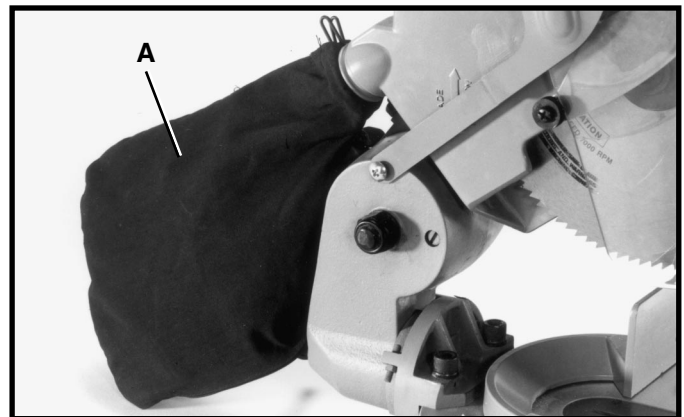

Fig. 11
1. Assemble the dust bag (A) Fig. 11, to dust spout on rear of guard assembly, as shown.